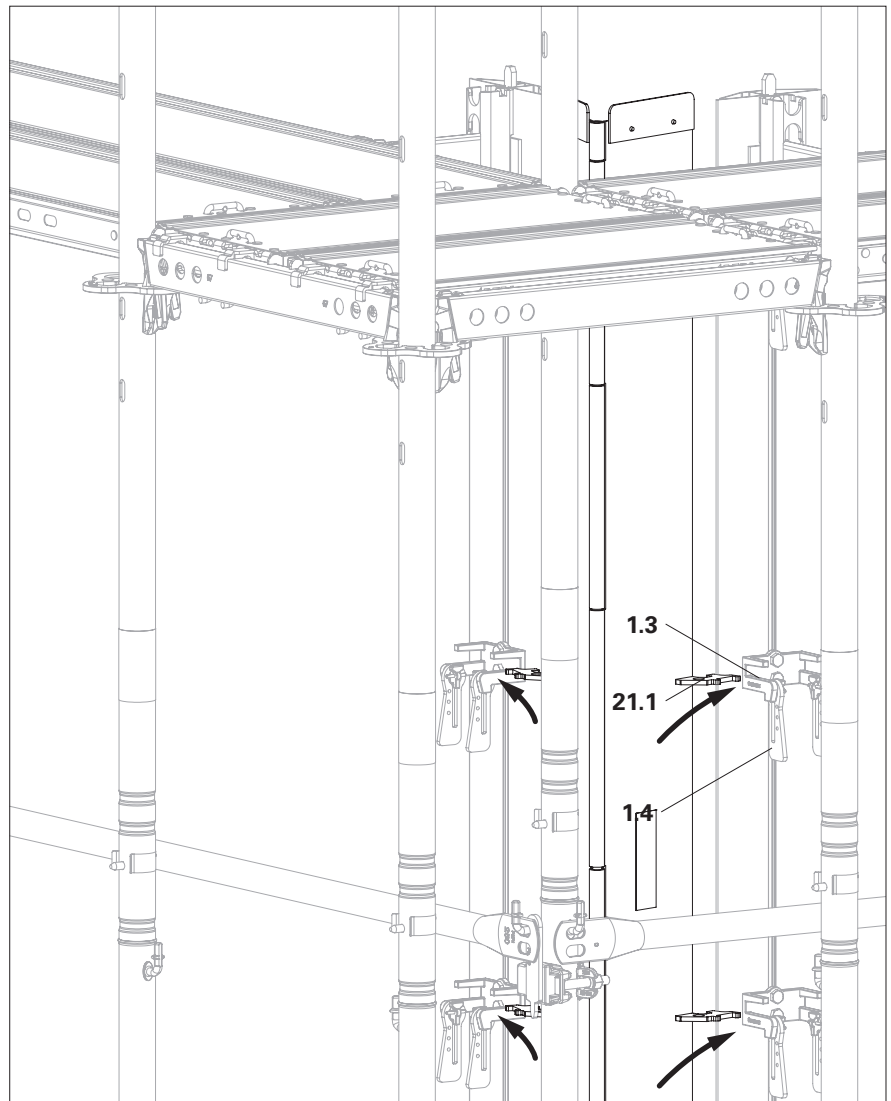
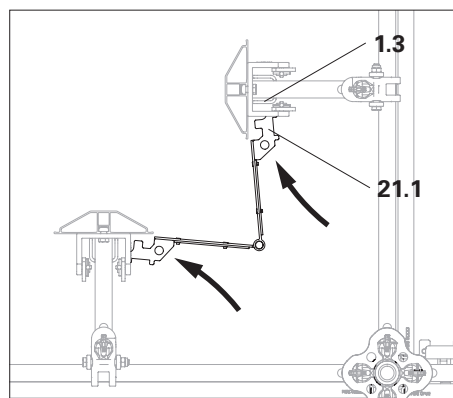

Fig. C2.05
Fig. C2.05a
4. Swing up the wedges (1.4) and lock the lugs and secure with jarring blow. (Fig. C2.05 + Fig. C2.05a)